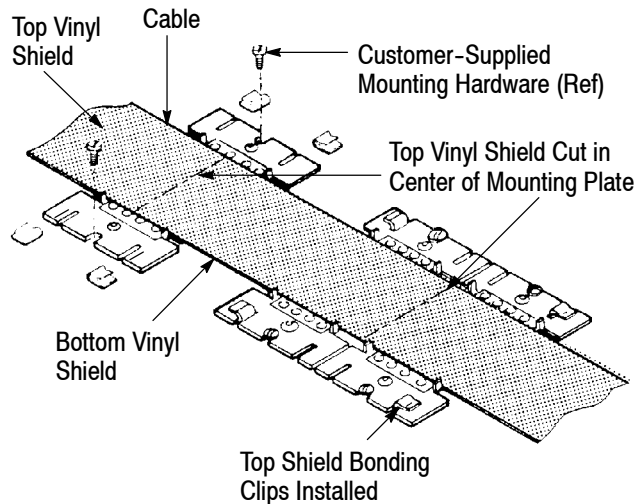

Figure 3
3. Slide the mounting plate between the bottom vinyl shield and the cable. Secure the mounting plate to the floor using the mounting hardware. See Figure 3.